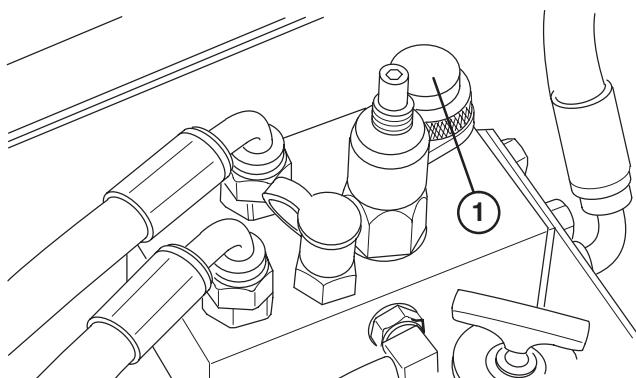

Figure 23
4. Raise seat and open needle valve (Fig. 23). This allows lift arms to float freely.
2. Raise seat and open needle valve (Fig. 23). This allows lift arms to float freely.
11. Close needle valve (Fig. 23) and lower seat.